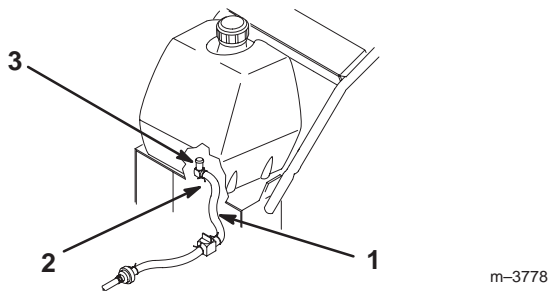

Figure 14
4. Push the fuel line onto the fuel tank fitting, and secure the fuel line with a hose clamp (Fig. 14).